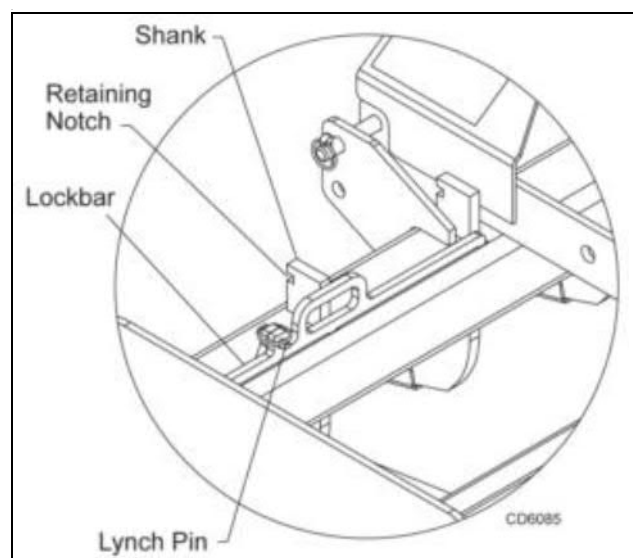

Figure 5. Scarifier Shanks (lock bar installed)
4. Remove shank from bottom of tube. Replace lockbars and lynch pins (see Figure 5).